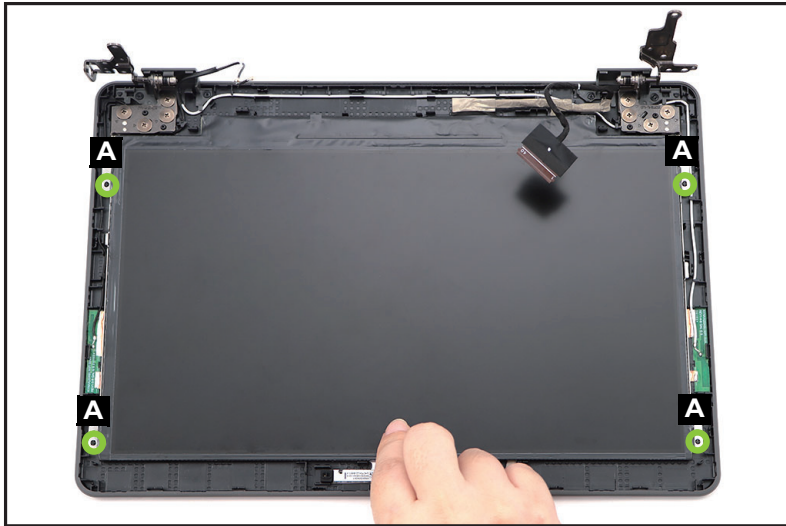

Figure 3-40. LCD Panel Removal
3. Release the LCD panel from the guide pins (A) and carefully flip it so that the display panel is facing down on a flat surface (Figure 3-40).